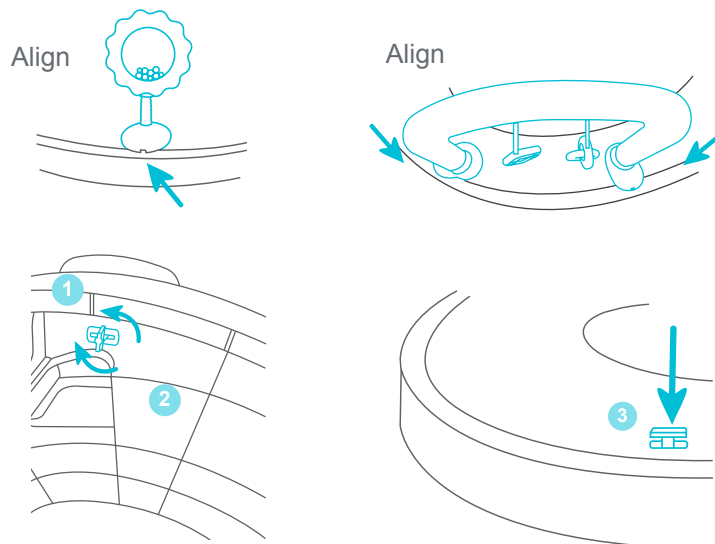

Fig. 5c
- Use the diagram below (Fig. 5c) to lock the toys onto the tabletop. (1) Push the tab up and rotate it left to lock. (2) Rotate the tab right to release the toy. (3) Always put the small tab lock back into the tabletop when not in use.